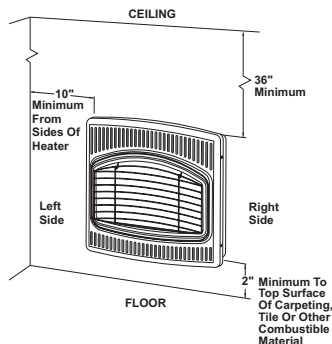

Figure 4 - Mounting Clearances As Viewed From Front of Heater
**WARNING:** Maintain the minimum clearances shown in Figure 4. If you can, provide greater clearances from floor, ceiling and joining wall.